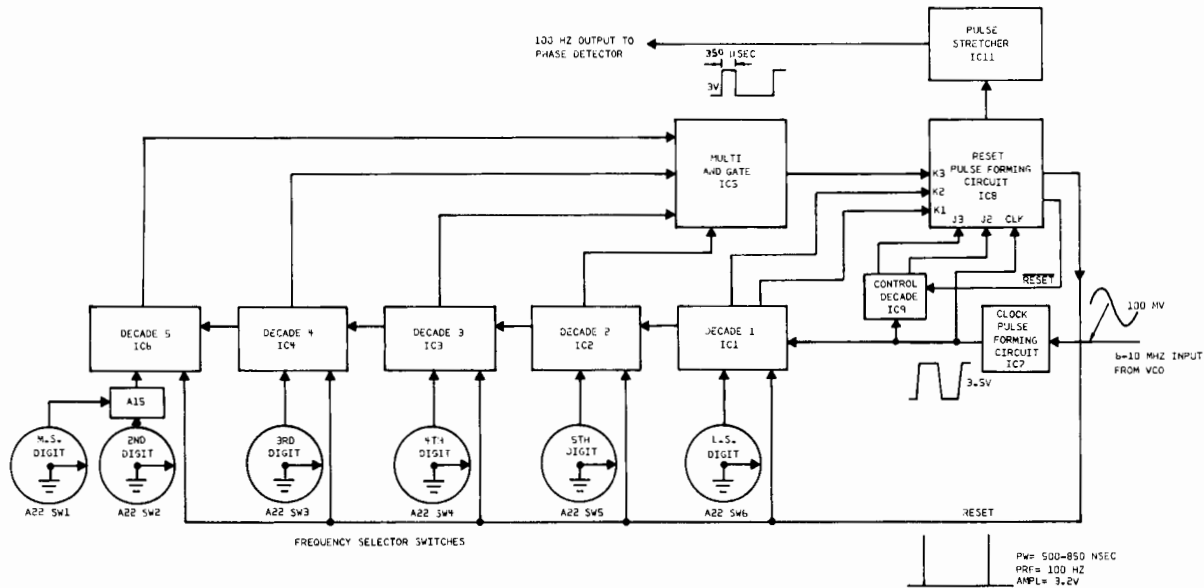

Figure 4-2. Divide-by-N Counter, Simplified Block Diagram
4.43 As has been stated, the VCO must produce a signal with a frequency of 6.3456 MHz for a dialed-in frequency of 123.456 MHz. The VCO sinewave output is connected to the clock pulse-forming network, IC7 (Figures 4-2 and 6-14) In the example, the ÷N Counter must count 6,345,600 pulses per second and produce a signal of 100 pulses per second (100 Hz). This means that for every 63,456 input (clock) pulses, the counter must produce one output pulse. ÷N, in this case, is 63,456.